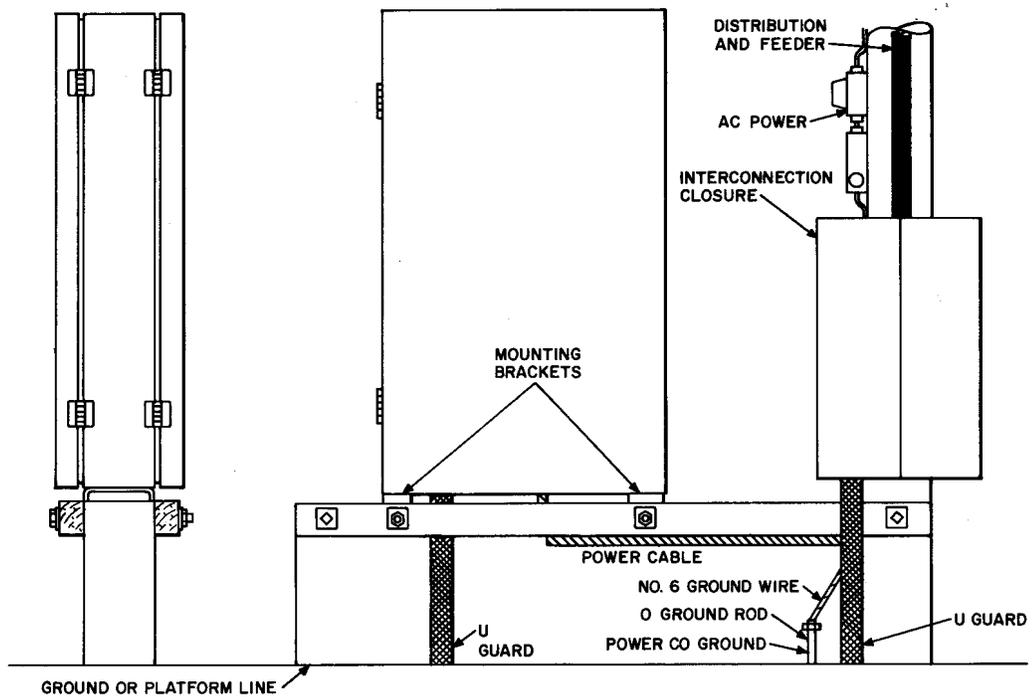

Fig. 13—Fixture Mounted Cabinet
3.32 If flexible power conduit is required, run the power conduit from the bottom of the cabinet, along the crossarm, along the stub pole, into the trench between the poles, and up the pole to the meter panel and switch box, as shown in Fig. 13.
3.36 Figure 13 illustrates a complete installation on a crossarm fixture.